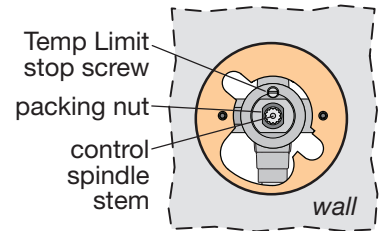

Figure 3 Valve adjustments
*Reference figure 3 below*
Reference page 2, figure 3